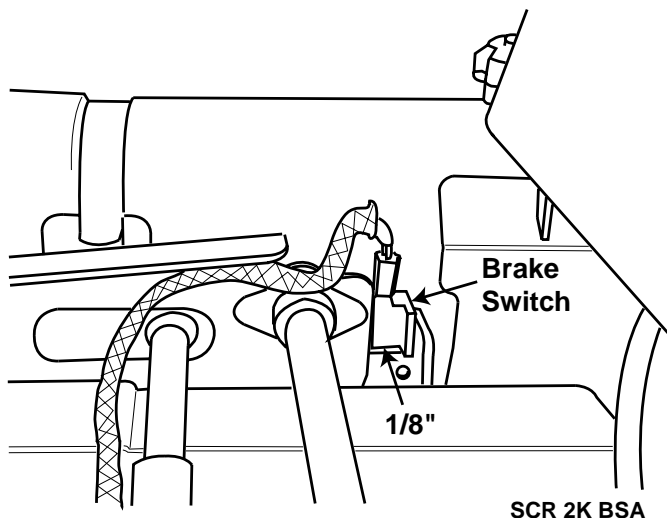
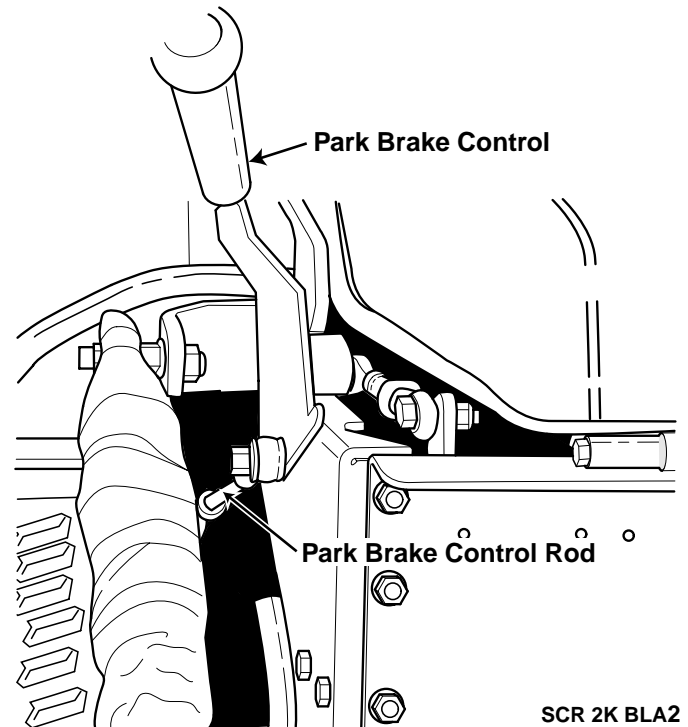

Figure 6-1 Brake Switch
Figure 6-2 Brake Switch Adjustment
1. Position a floor jack under the left side of the machine behind the drive wheel. Raise the machine and support it to prevent it from falling. Block the caster wheels to prevent the machine from moving. Remove the right drive wheel and reinstall (2) lug nuts to hold the hub on.
2. With the brake lever in the engaged position, check to see if the lever plunges the brake switch within 1/8" of bottoming out. (See Figure 6-1). To increase the distance, loosen the jam nuts on the parking brake control rod and turn the rod clockwise. To decrease the distance, turn the rod counterclockwise. (See Figure 6-2).